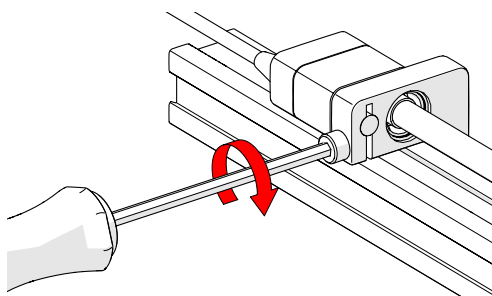

Fig. 62 - Tighten clamp screw
3. Lock the encoder in place by tightening the 3 mm clamp screw on the index encoder support bracket (Fig. 62).